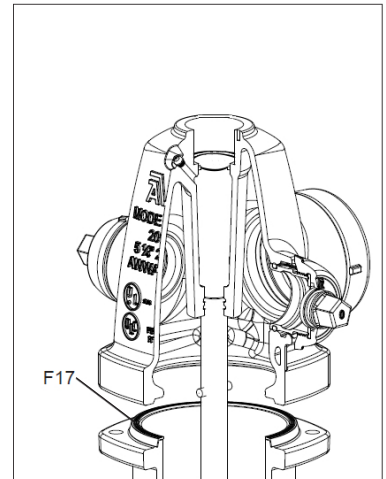

Fig. 7F
2. Verify that the barrel gasket (F17) is in place on top of the upper barrel (F35) (see fig. 7F).